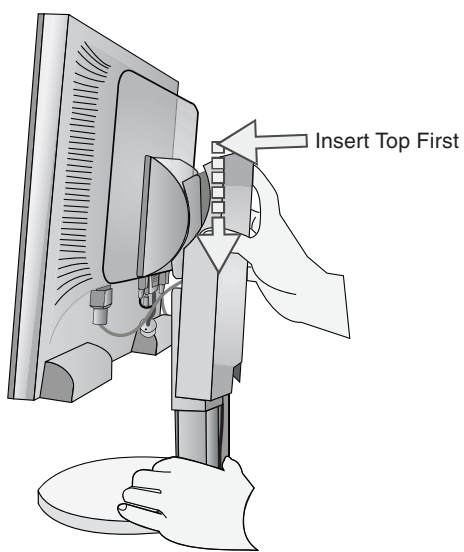
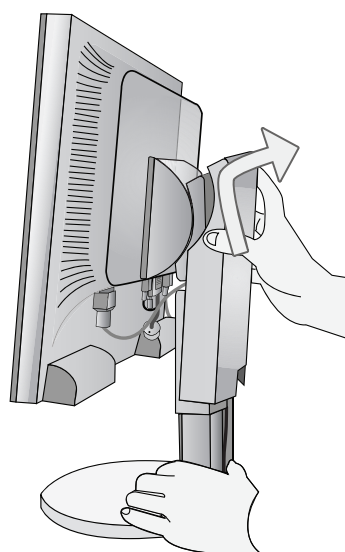

Figure D.1
Figure D.2
- Hold the all cables firmly and place the cable cover onto the stand (**Figure D.1**). To remove the cable cover, lift the cover off as shown in **Figure D.2**.